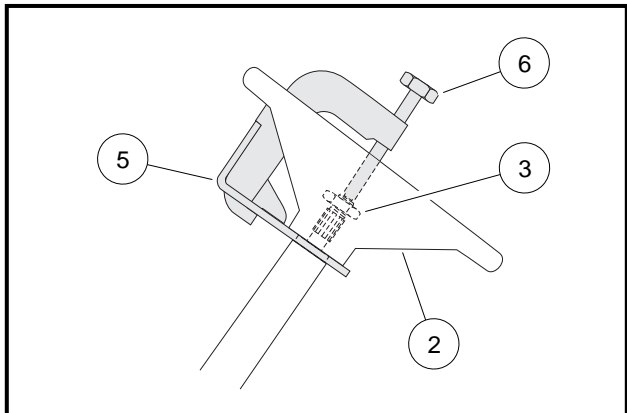

Figure 7-2 Steering Wheel Puller
- 4.3. Rotate the anvil screw (6) clockwise until the base plate contacts the bottom of the steering wheel where it attaches to the steering column (**Figure 7-2, Page 7-2**).